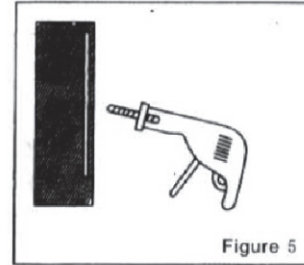

Figure 5
6. When boring holes, avoid the power cords inside the wall, so as not to get an electric shock, (shown in figure 5)